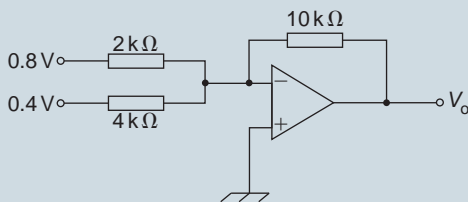

Figure 21.28
7. For the op amp shown in Fig. 21.28, the output voltage, V_o , is: